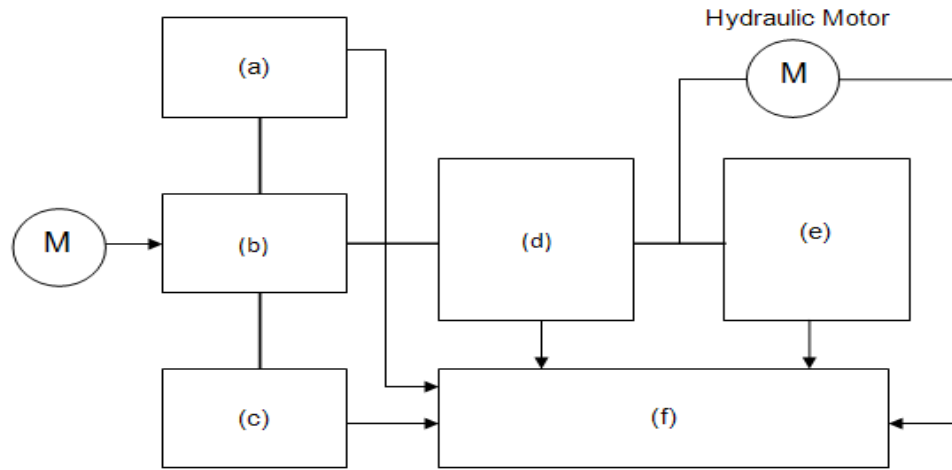

Figure A2b / Rajah A2b
- b) Figure A2b shows a hydraulic control system block diagram. Fill in the a, b, c, d, e and f boxes with the correct answers.